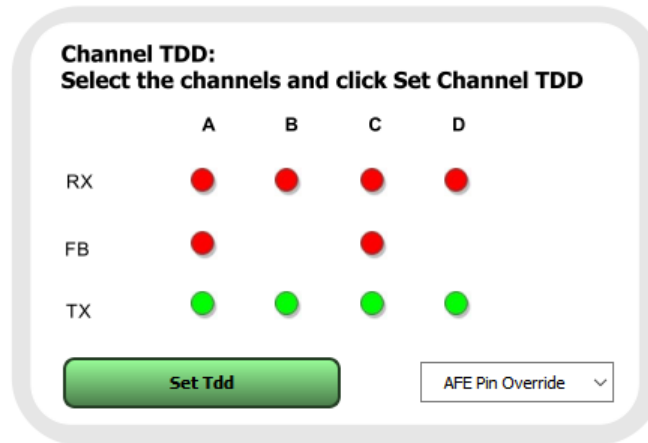

Figure 2-10. Enable TX TDD
1. Once the steps in "Initial bringup for all test cases" section are complete, navigate to the Channel-Controls tab in Latte and under the "Channel TDD" box, click the buttons for TX to turn them green and "Set Tdd", as shown in Figure 2-10.